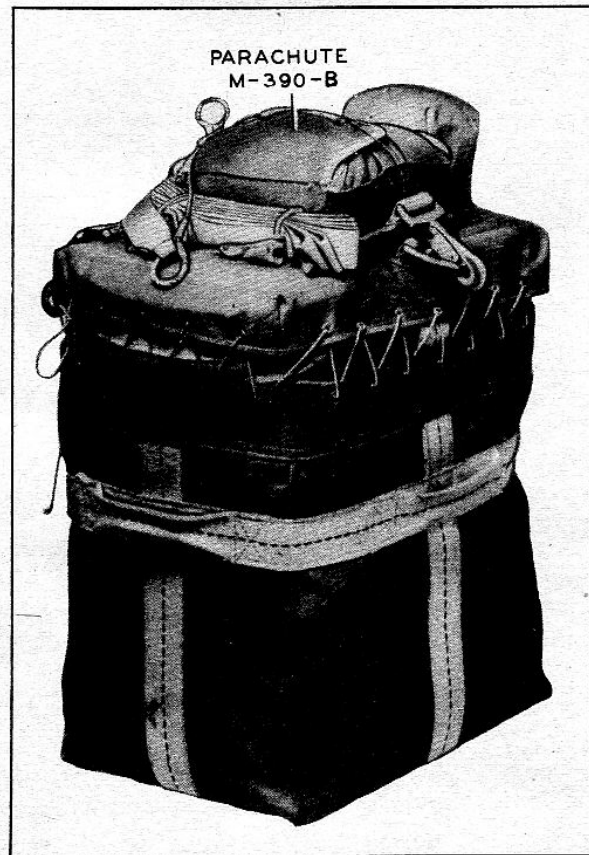

Figure 1-8. Bag BG-155-A
g. BAG BG-155-A.—The bag (see fig. 1-8), when packed, holds all components of the radio set except the parachute. This is attached to the top of the bag. Various pads and a smaller bag, which holds the kite and inflating tubes, are supplied as part of Bag BG-155-A.